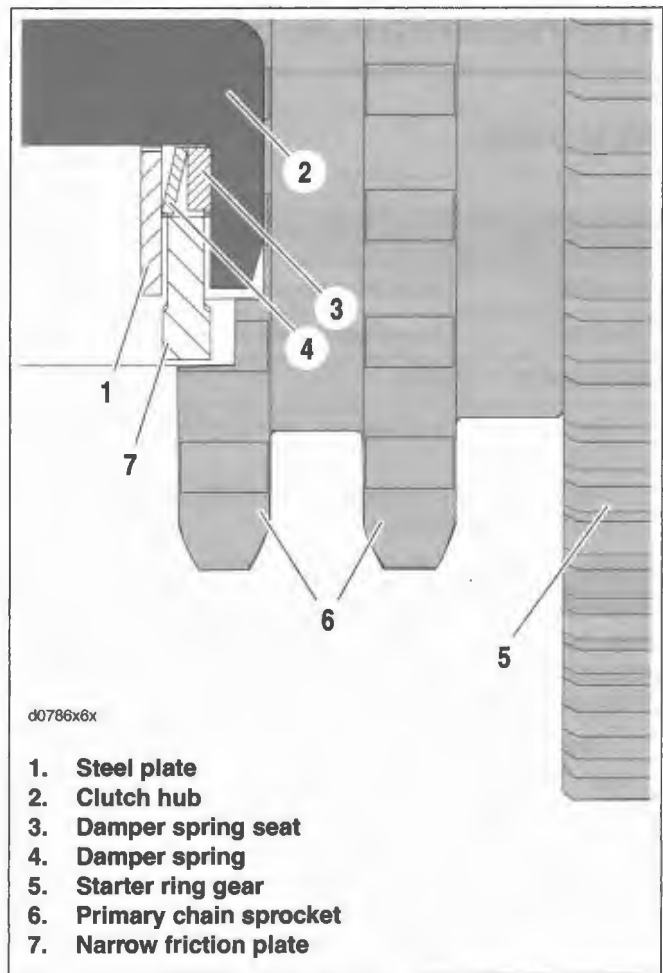

Figure 6-30. Clutch Stackup
7. See Figure 6-30. Install the narrow friction plate on the clutch hub engaging tabs on plate with slots in clutch shell.